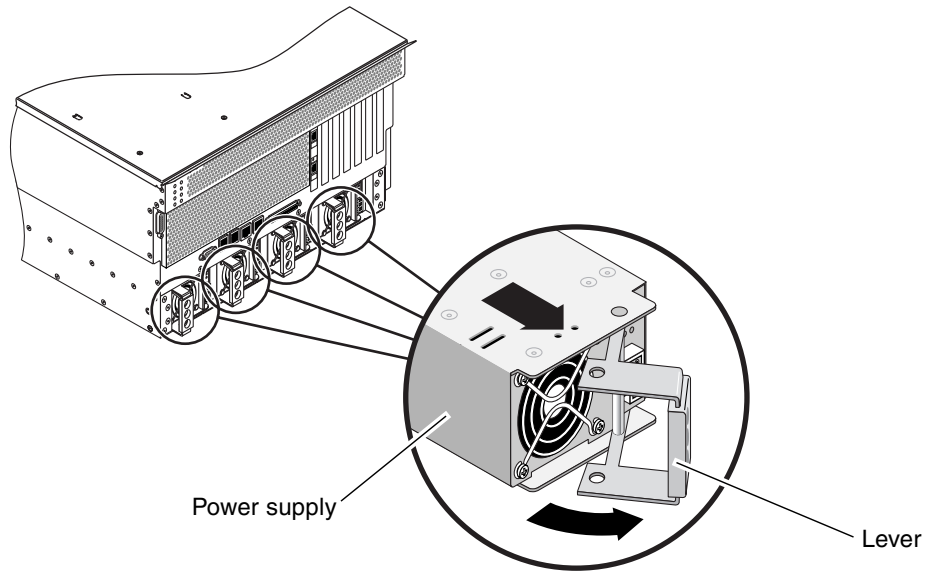

FIGURE 4-33 Removing a Power Supply Unit
- a. Go to the back of the system and pull the lever on the power supply to the right (FIGURE 4-33).